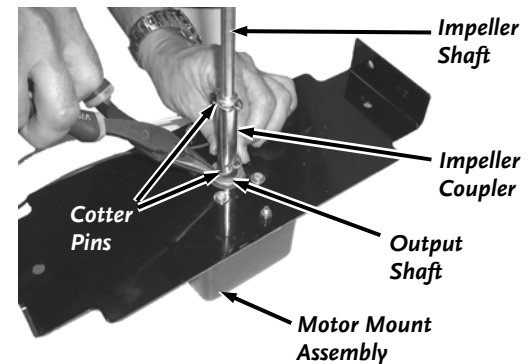

**Figure 6**
4. Remove two 1/4" Nylock Nuts (7/16" Wrench) from the Hopper Assembly and position the two Angle Brackets and secure (hand tight) with the two Nuts you removed (**Figure 6**).